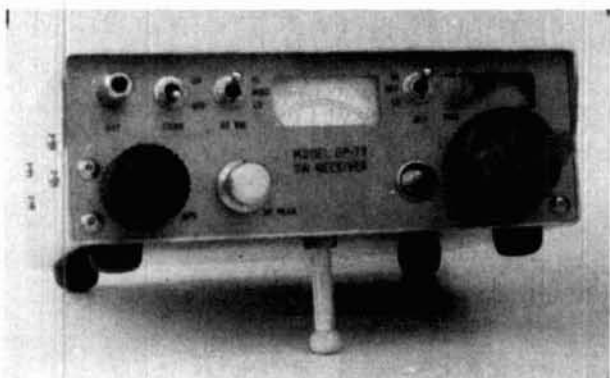

fig. 1. Top row of controls includes antenna input, on/off switch, RF bandswitching. Bottom row includes AF gain knob, RF tuning, main tuning.
In the April, 1984 issue of *ham radio*, Jack described the construction of a compact, portable, high performance shortwave receiver for the 46- through 100-meter bands.1 This article provides a design for an extended coverage receiver based on that design, but offering front-end RF tuning and a built-in frequency counter and power supply. Helpful circuit hints applicable to other receiver designs are also described. The April article should be reviewed for schematics, component values and construction details. **Figures 1, 2, and 3** show several views of the new receiver from different angles, including component layout and shielding requirements — Editor.
fig. 4. Schematics of the GP-78 converter and bandswitch wiring. (RF coils shown, L1 through L4, are detailed in reference 1.) Shielded bandswitch connections use miniature coaxial cable, type RG-174/U or equivalent. The 6.0 MHz crystal is a type HC-25/U by ICM. Only the first two digits (DG) of the frequency display are shown, as the third and fourth digits are wired in parallel to digit No. 2. The new control added "RF PEAK" is a 5-24 pF Jackson miniature trimmer, controllable from the front panel (see fig. 1). The remainder of this circuit (not shown) is identical to the schematics shown in reference 1. The converter shown could also be adapted to the earlier (or other) projects as a separate accessory, fitting into a 3 x 3 x 0.75 inch box, borrowing the +12 volts from the receiver.